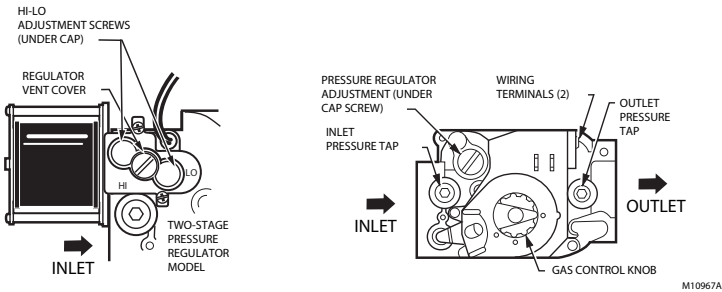

Fig. 6. Top view of gas control.
3. With the main burner operating, check the control flow rate using the meter clocking method or check pressure using a manometer connected to the outlet pressure tap on the control. See Fig. 6.
- b. Using a screwdriver, turn the inner adjustment screw (Fig. 6) clockwise  to increase or counterclockwise  to decrease the gas pressure to the burner.
3. With main burner operating, check the gas control flow rate using the meter clocking method or check pressure using a manometer connected to the outlet pressure tap on the gas control. See Fig. 6.
4. With main burner operating, check the gas control flow rate using the meter clocking method or check pressure using a manometer connected to the outlet pressure tap on the gas control. See Fig. 6.
- a. Remove the pressure regulator adjustment cap (Fig. 6).